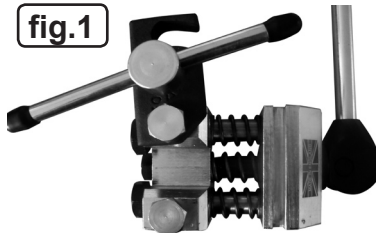

fig.1
- 3.2. Clamp the tool in a suitable bench mounted vice. Assemble the lever onto the cam as shown (Fig.1). Loosen the clamping screw to allow the clamp to swing open.